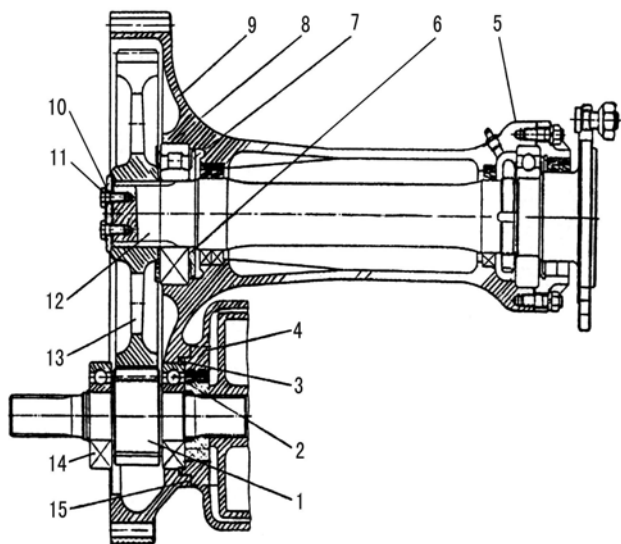

Fig.6-9 Final transmission assembly
6.1.5 Final transmission (Fig. 6-9)
mesh) final transmission systems, distributed at both sides of the transmission case. Engine transmits its power through clutch and transmission case, and the power is divided by differential mechanism into two parts and transmitted to the right and the left final small transmission gears and then to two driving shafts. Its structure is as Fig. 6-9.